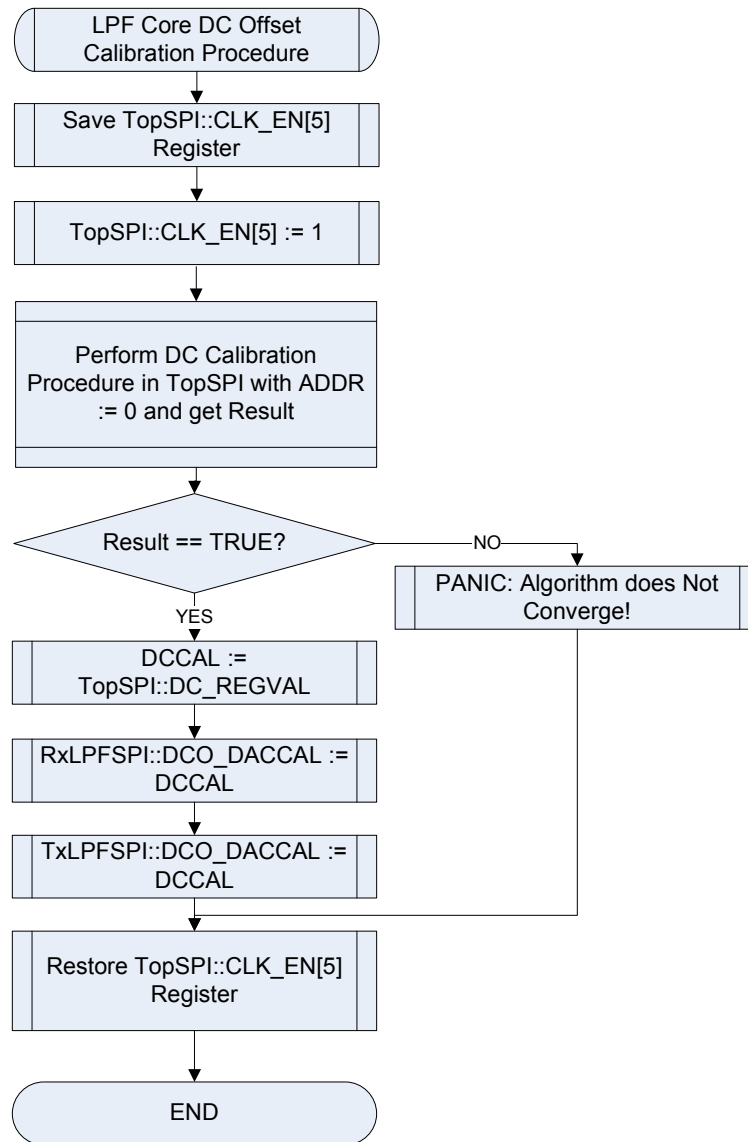

Figure 4.2
1. DC offset cancellation of the LPF tuning module, Figure 4.2.